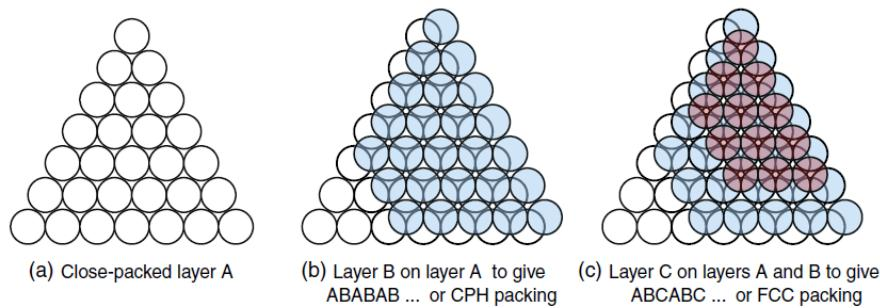
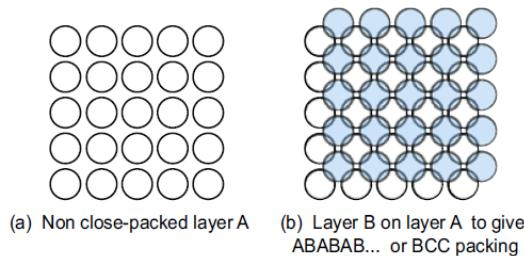

Figure 4.27 Close packing of spheres.
Figure 4.28 Square packing of spheres.
**Atom packing in metals and the unit cell** Atoms often behave as if they were hard, spherical balls. The balls on a pool table, when set, are arranged as a close-packed layer, as shown in Figure 4.27\(a\). The atoms of many metals form extensive layers packed in this way. There is no way to pack the atoms more closely than this, so this arrangement is called ‘close-packed’. These two-dimensional layers of atoms can then be close-packed in three dimensions. Surprisingly, there are two ways to do this. Where three atoms meet in the first layer, layer A, there are natural depressions for atoms of a second close-packed layer B. A third layer can be added
such that its atoms are exactly above those in the first layer, so that it, too, is in the A orientation, and the sequence is repeated to give a crystal with ABABAB ... stacking, as in Figure 4.27\(b\); it is called *close-packed hexagonal*, or *CPH* (sometimes *HCP*) for short, for reasons explained in a moment. But there is an alternative stacking sequence. In placing the third layer, there are two choices of position – one aligned with A (as before), and one offset from layer A, giving a third layer, C, that is nested onto B in this alternative position. This stacking becomes (on repeating) ABCABCABC ... as shown in Figure 4.27\(c\); it is called *face-centred cubic* (*FCC* for short). Many metals, such as copper, silver, aluminium and nickel, have the *FCC* structure; many others, such as magnesium, zinc, and titanium, have the *CPH* structure. The two alternative structures have the same packing fraction, 0.74, meaning that the spheres occupy 74% of the available space. But the small difference in layout influences properties, particularly those having to do with plastic deformation (Chapter 6).
Not all structures are close-packed. Figure 4.28 shows one of these, made by stacking square-packed layers. It has a lower packing density than the hexagonal layers of the FCC and CPH structures. An ABABAB... stacking of these layers builds the *body-centred cubic* structure, BCC for short, with a packing fraction of 0.68. Iron and most steels have this structure. There are many other crystal structures, but for now these three are enough, covering most important metals.
The characterising unit of a crystal structure is its *unit cell*. Figure 4.30 shows three; the red lines define the cell. The atoms have been shrunk to reveal the cell more clearly; in reality, they touch in close-packed directions. In the first, shown at (a), the cell is a hexagonal prism. The atoms in the top, bottom and central planes form close-packed layers like that of Figure 4.27(b), with ABAB ... stacking – that's why this structure is called CPH. The second, shown at (b), is also made up of close-packed layers, though this is harder to see; the shaded triangular plane is one of them. If we think of this as an A plane, atoms in the plane above it nest in the B position, and those in the plane below it, in the C position, giving ABCABC ... stacking, as in Figure 4.27(c). The unit cell itself is a cube with an atom at each corner and one at the centre of each face – for this reason, it's called FCC. The final cell, shown at (c), is the characterising unit of the square-layer structure of Figure 4.28; it is a cube with an atom at each corner and one in the middle, called, appropriately, BCC.